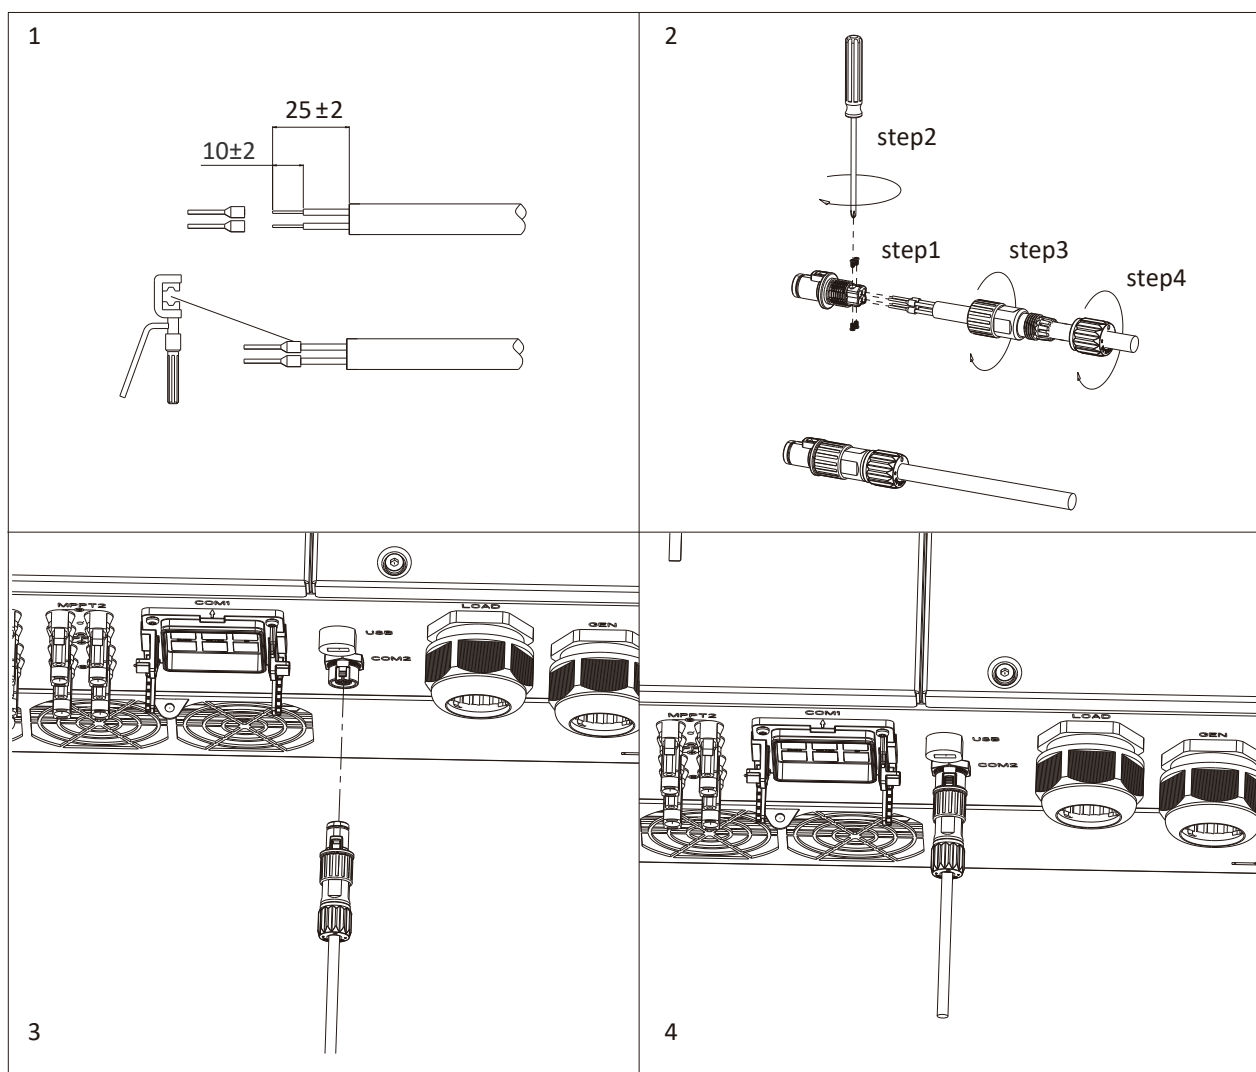

Fig 6.21 Connecting to the COM2 terminal
3. Connect the COM2 cable to the COM2 terminal on the inverter, as shown in Fig6.21;